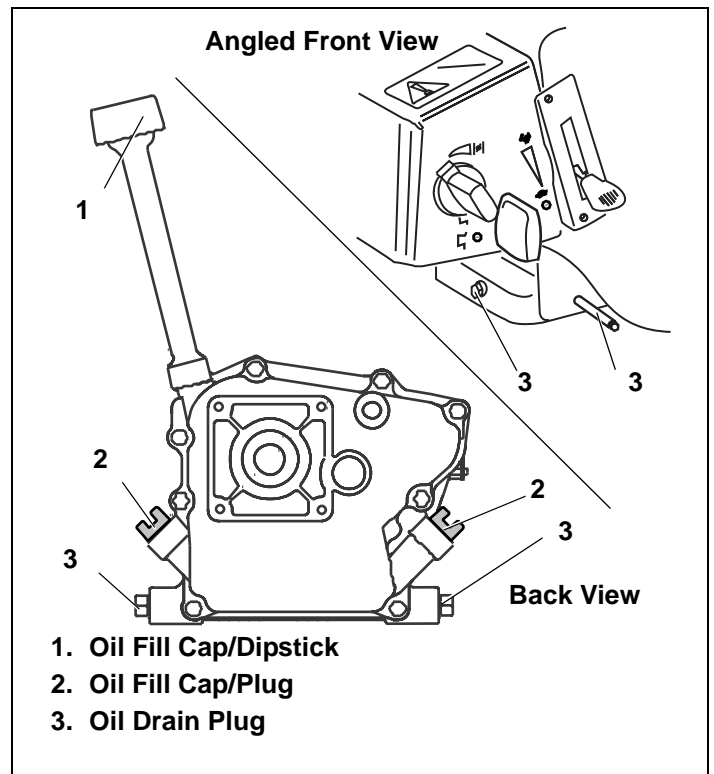

Figure 41. Oil Fill/Drain Locations
3. Be sure you find the correct oil drain plug location, if present (see equipment manufacturer's instructions). See Figure 41. See Figure 14 on page 7. Afterward, continue reading instructions below.
5. Place approved recyclable oil container under oil drain plug, if present. See Figure 41 on page 18. Afterward, continue reading instructions below.
10. Clean area around oil drain plug. See Figure 41 on page 18. Afterward, continue reading instructions below.